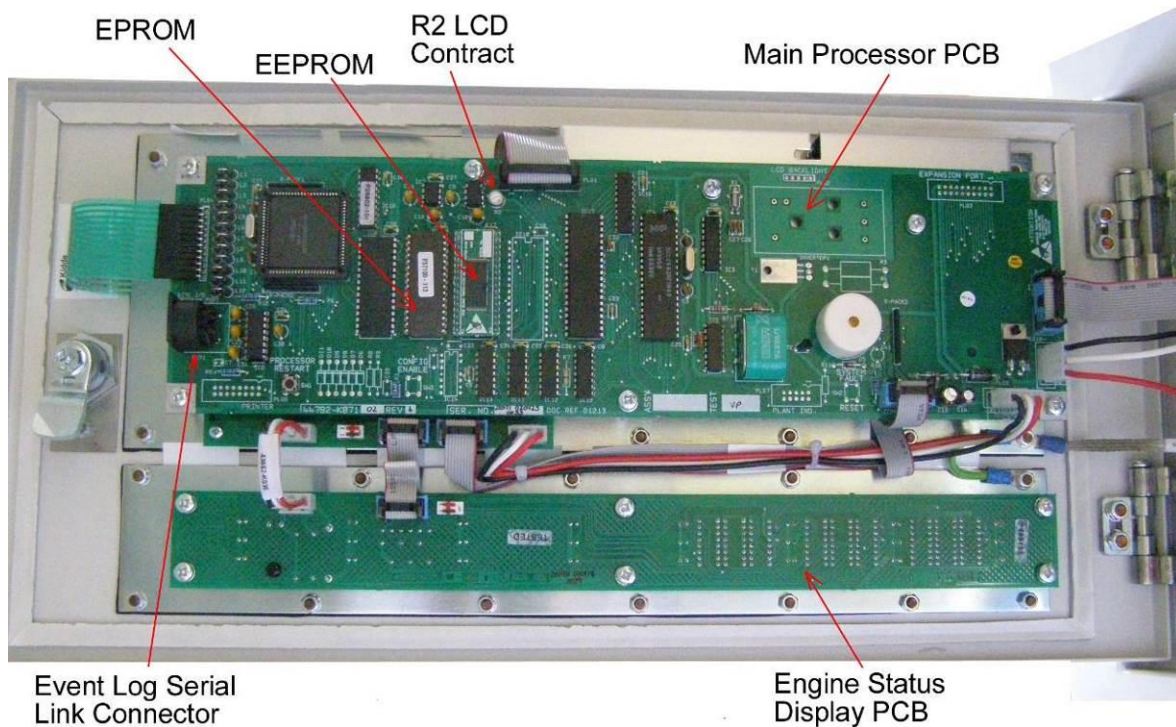

Figure 57 Control Unit PCB's
3.6.1 Main Control Processor PCB .Part No. 1-44782-K071-02 (refer to Figure 57)